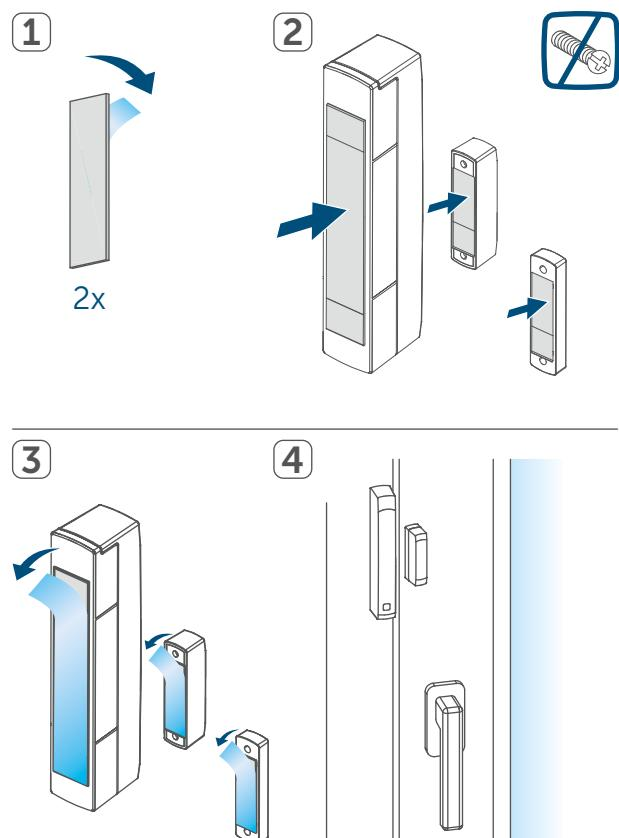

Figure 11
- Attach the large double-sided adhesive strip to the back side of the bracket (H) and press the device onto the desired position (see „Figure 11“).
Attach the small double-sided adhesive strip to the back side of the magnet contact (I) (see figure 11) and press the magnet contact onto the desired position of the window.